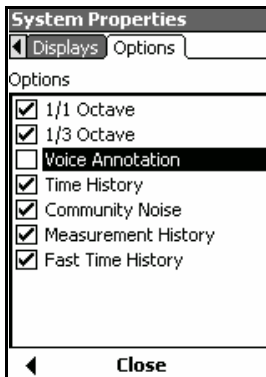

FIGURE 12-36 Voice Annotation Option will be Hidden on the Meter
Step 2 To display or hide any option(s) in the interface, press **ENTER** to enter the dialog mode, then use the **←** and **→** arrow keys to highlight an option, and use **↵** and **ENTER** to toggle the state of the option between hidden (unchecked) and displayed (checked). In FIGURE 12-36, the Voice Annotation option has been hidden on the meter.